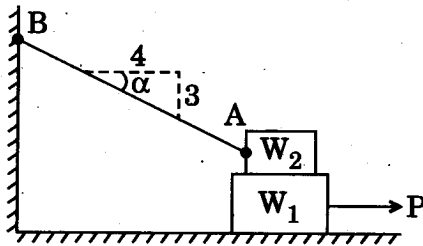

Figure 2
3. (a) A block of weight $W_1 = 200 \text{ N}$ rests on a horizontal surface and supports on top of it another block of weight $W_2 = 50 \text{ N}$. The block W_2 is attached with the vertical wall by string AB as shown in Figure 2. Find the amount of horizontal force P , applied to the lower block necessary for impending slipping. Coefficient of friction = 0.3 (All surface).